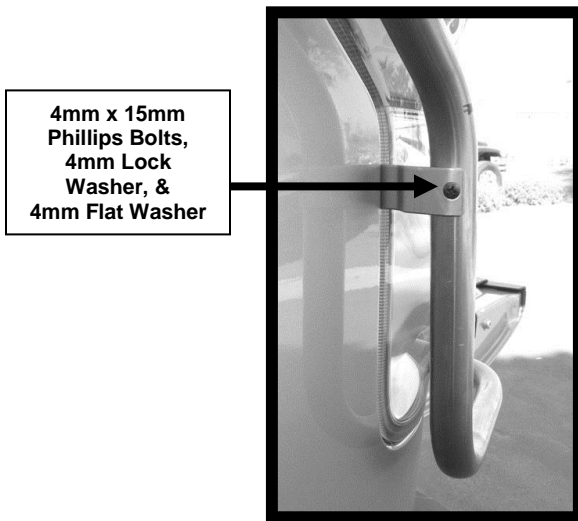

Figure 3
8. Attach Taillight Guard to Support Bracket using the included (1) 4-.70mm x 15mm Phillips Screw, (1) 4mm Lock Washer, (1) 4mm Flat Washer (Figure 3). Do not tighten at this time.